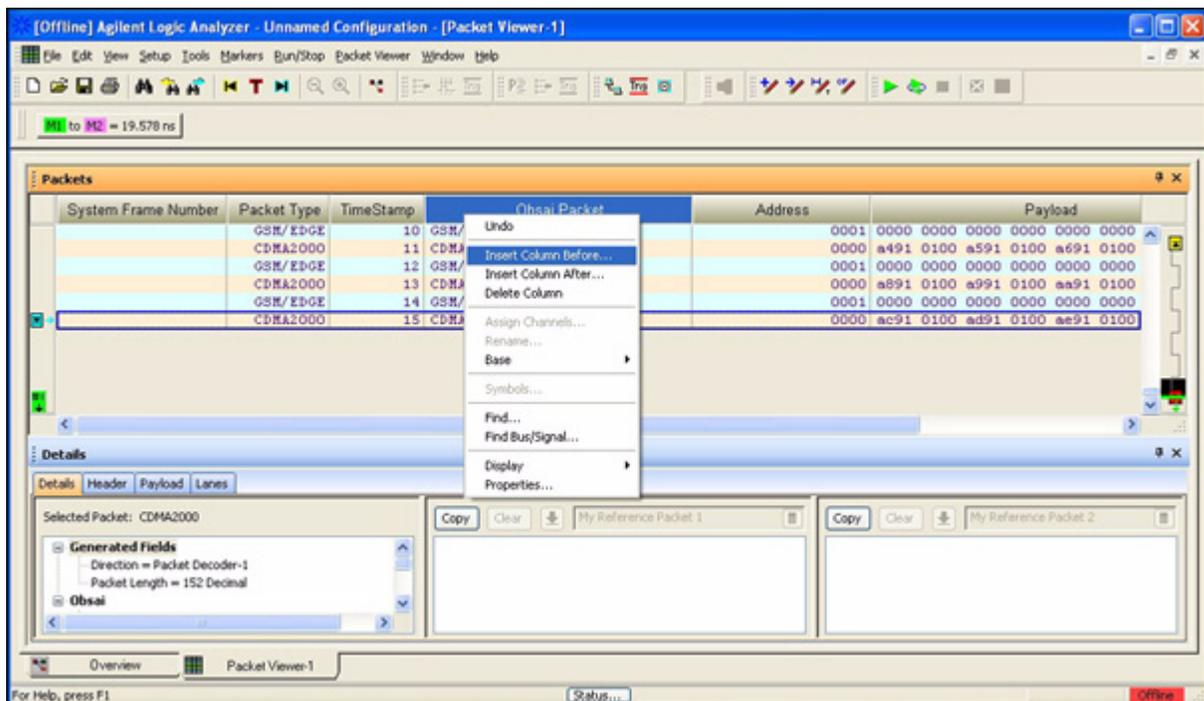

Figure 52 Insert Column screen
- 1 Right click the column heading. Select the desired option to insert a column before or after the selected column as shown in the Figure 52.